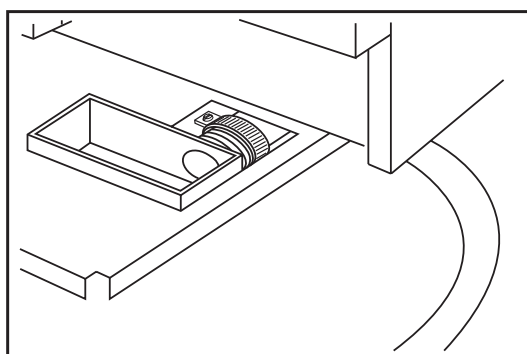

Fig. 5
- Connect a tube with a 15-17 mm internal diameter to the drain nozzle found under the base of the machine and fix it with a SCREW BAND (fig.5).